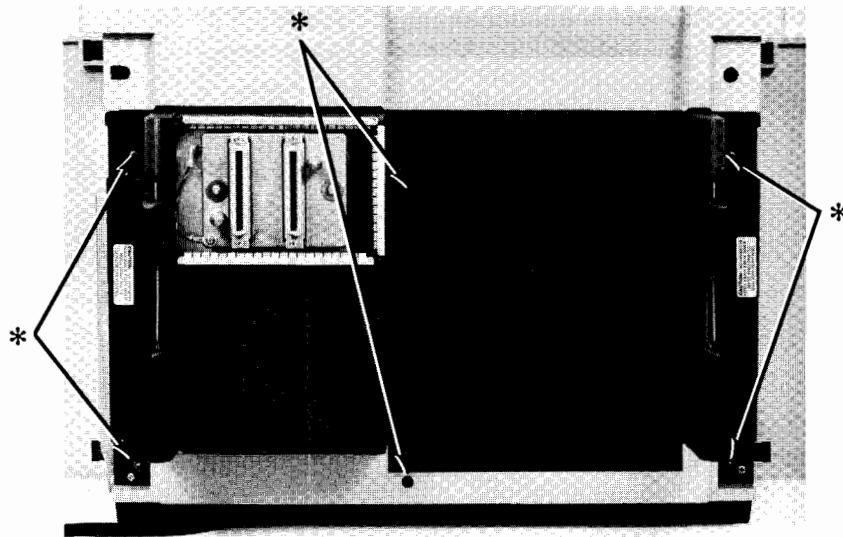

Figure 4-9. Removing Rear Cover
5. Loosen six #2 Pozidriv captive screws that hold rear cover to computer (Figure 4-9).